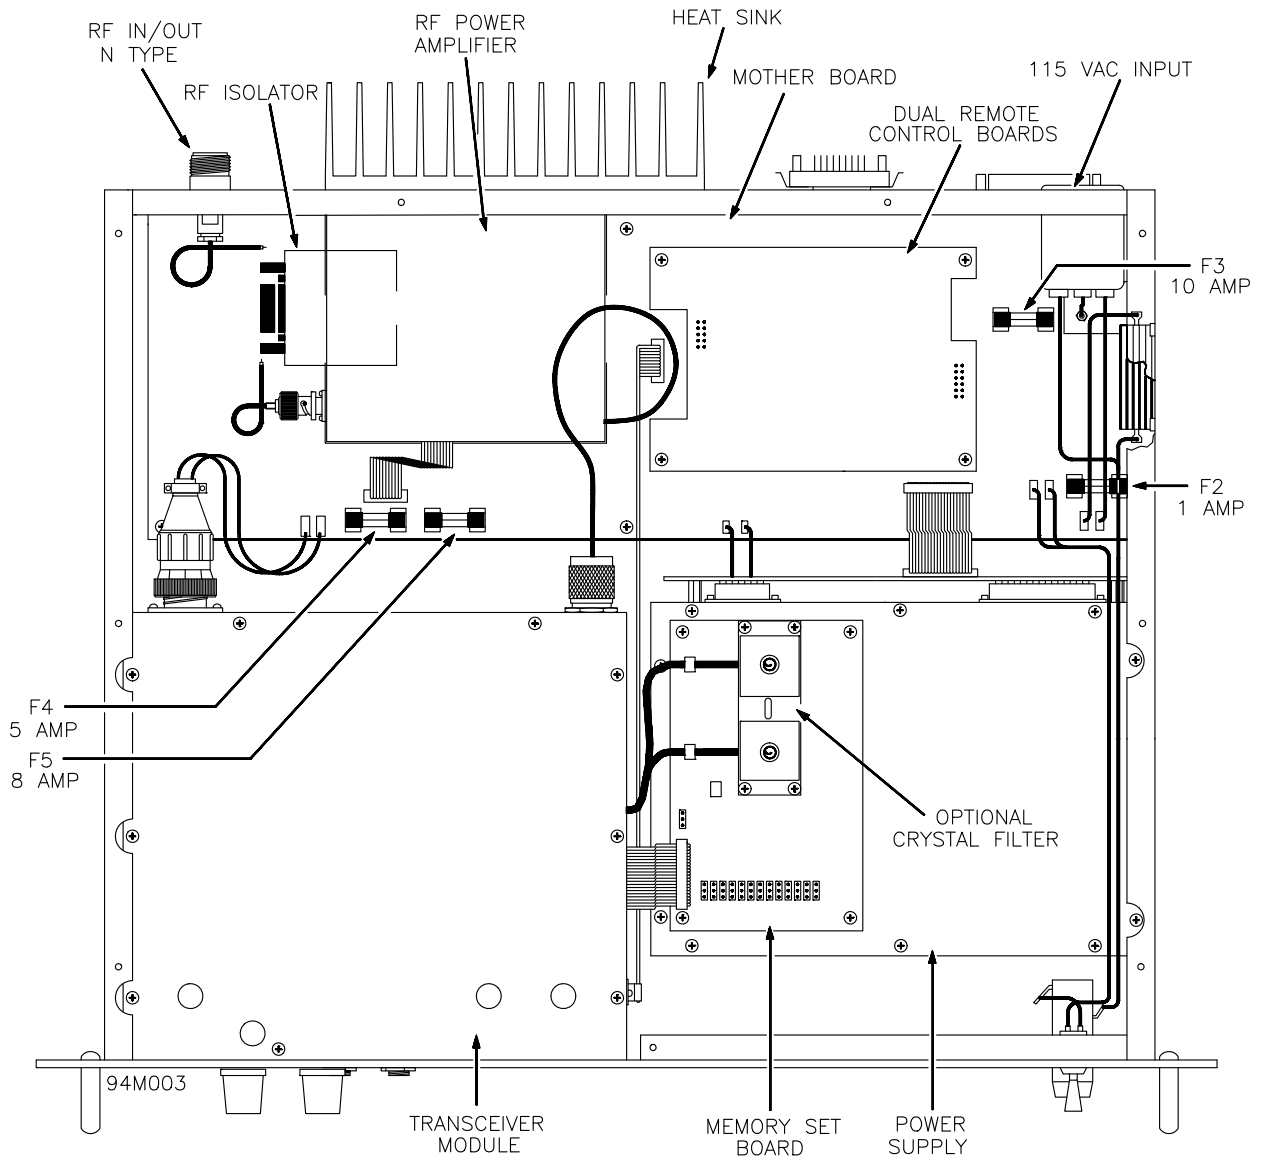

Figure 2.1 Single Channel Transceiver - Internal View
2.2 DISASSEMBLY/ASSEMBLY (Refer to Figure 2.1)
- (1) Remove and retain twelve screws securing top dust cover to the 19" rack chassis.
- (2) Please note the location of the three longer screws which travel through the heatsink shims riveted to the inside of the top cover.
- (3) Lift cover clear of chassis to expose internal view of transceiver as shown in Figure 2.1.
- (1) Remove dust cover as described in paragraph 2.2.1, remove top cover of transceiver module.
- (2) Disconnect the two crystal filter co-axial cable leads for jumper J2/P3 on the Rx/Tx module A1, located in the transceiver module.
- (3) Remove and retain four screws securing Memory Set Board, Module A5A1 "piggy back" to the standoffs on the power supply cover. (See Figure 2.1 for location).